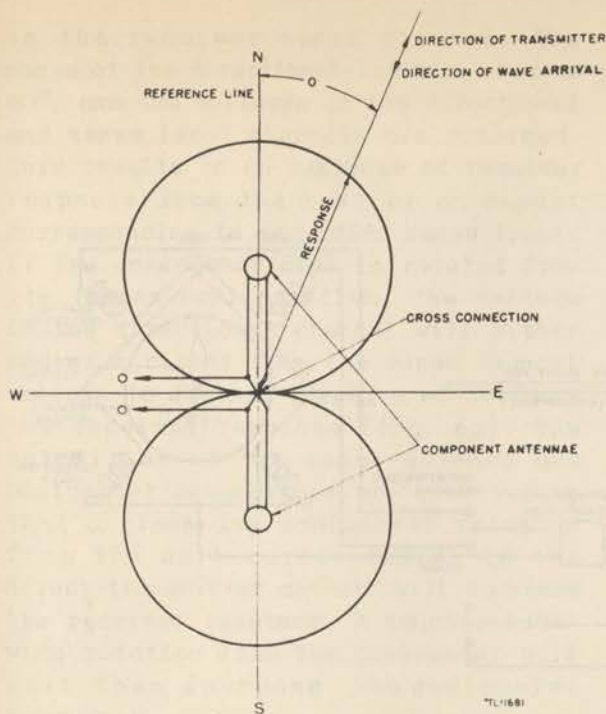
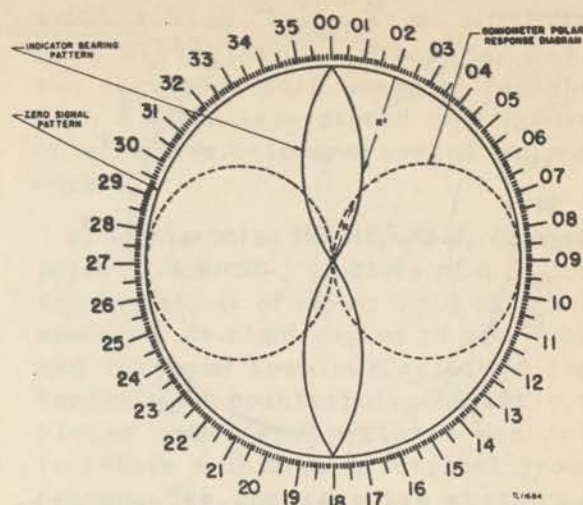
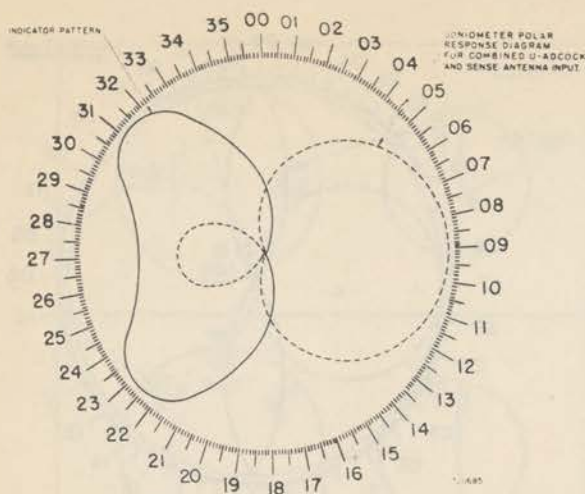
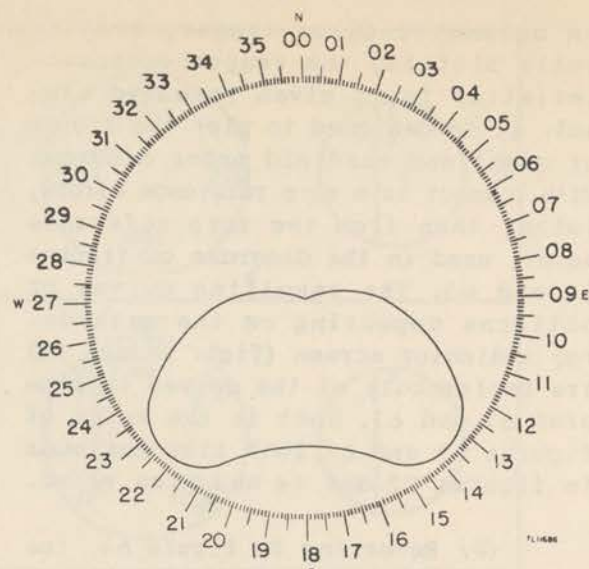

Figure 62. U-Adcock antenna polar response diagram.
Figure 72. Indicator azimuth pattern corresponding to the figure eight crossed U-Adcock and goniometer response characteristics.
Figure 73. Indicator pattern corresponding to cardioid response diagram, as it would be traced by the bearing deflection coils.
Figure 74. Sense pattern (figure 73 rotated 90°) traced by sense deflection coils which are advanced 90° from the bearing deflection coils.
(3) A polar diagram of reception showing response plotted against the angle of arrival of waves for a U-Adcock antenna system is shown in figure 62. When the transmitter is in the N or S direction, in the system illustrated, the output at the antenna terminals is maximum. If the transmitter is moved to the E or W direction the output at the antenna terminals will be zero or null. At intermediate directions the voltage across the U-Adcock is proportional to the cosine of the angle (θ in fig. 62) between the plane of the U-Adcock antenna system and the direction of arrival of the radio wave. The phase of the output voltage from terminals O-O (fig. 62) for all transmitter locations north of the E-W line perpendicular to the array, is just the reverse of the phase of the output voltage corresponding to transmitter locations south of the E-W line. In other words, the output voltage changes phase by 180° as the angle of arrival of the wave passes through the angles of antenna zero or null response. This is because waves arriving from the north of the E-W, or null line, arrive at the north component antenna first, while those from the south of the null line arrive at the south antenna first.
(4) Since the response of the U-Adcock antenna depends upon the direction of arrival of the wave with respect to the plane of the array, the antenna may be used to determine the azimuth of a transmitter, from a given point of observation, by rotating it to a null or zero response position. A pointer set perpendicular to the array and located at its center will point along the line of arrival of the radio waves. Observe, however, that for a U-Adcock antenna there are two null positions 180° apart. Either null gives the line of arrival of the wave but
an automatic curve tracer, continually plotting the response characteristics for a given received signal. It is designed to plot the figure of eight and cardioid polar diagrams with respect to a zero reference circle, rather than from the zero reference point, used in the diagrams of figures 62 and 63. The resulting curves or patterns appearing on the cathode-ray indicator screen (figs. 72 and 74) are reciprocals of the curves in figures 62 and 63. That is the nulls of figures 62 and 63 look like maximums in figures 72 and 74 and vice versa.
(b) Referring to figure 64, the goniometer output is amplified by an r-f amplifier in the directional channel of the receiver, shifted in phase 90° , and applied to the mixer amplifier. The sense antenna output is amplified in the receiver sense channel and combined with the amplified goniometer response in the mixer amplifier, when required for sense. The output of the mixer amplifier is rectified and applied to the grid of a d-c amplifier. The plate current from the d-c amplifier flows through a pair of deflection coils which are mounted so the resulting magnetic field is always perpendicular to the axis of the cathode-ray tube. The magnitude of the d-c amplifier plate current through the deflection coils is adjusted, by proper bias at zero signal, so that the resulting magnetic field through the cathode-ray tube deflects the spot to the edge of the screen. As the deflection coils are rotated about the axis of the tube the spot follows around the edge of the screen to form the zero signal or circular trace (fig. 72).
(a) The azimuth pattern is obtained by setting the SEARCH-INSTANT. BEARING-SENSE switch to INSTANT. BEARING. This connects the bearing deflection coils to the d-c amplifier output and disconnects the sense channel output from the mixer amplifier. The goniometer response, and hence the deflecting field of the deflection coils, varies with rotation as shown by the dotted figure of eight curve in figure 72. At the goniometer nulls, 0° and 180° in this figure, the receiver output is zero and the cathode-ray tube spot is at the edge of the screen. As the goniometer rotor and the deflection coils are turned from the nulls, the receiver output and bias on the d-c amplifier increases. This reduces the deflecting field and causes the cathode-ray tube spot to move toward the center of the screen as it rotates. For example in figure 72, at 20° of
(a) The sense pattern is obtained by combining the sense and directional channel outputs in the mixer amplifier (fig. 64). The receiver response then varies as shown by the dotted curve in figure 73. The solid curve is the corresponding indicator pattern which would be traced if the d-c amplifier were still connected to the bearing deflection coils. However, this orientation of the pattern is not practical for sense determination. Figure 74 shows the actual sense pattern which is obtained by rotating the pattern of figure 73 by 90° . This is done automatically when switching to SENSE by switching the d-c amplifier output to the sense deflection coils, which are advanced 90° from the bearing deflection coils (fig. 64).
(b) Observe that the sense pattern (fig. 74) is off center on the screen but is symmetrical with respect to the axis of the azimuth pattern of figure 72. All connections are phased so that the sense pattern lies opposite the end of the azimuth pattern which corresponds to the direct transmitter azimuth. This relationship between the azimuth and sense patterns is easy to remember because it is similar to the corresponding relationship between the head and tail of an arrow. That is, the head of the arrow points to the direct transmitter azimuth and the tail to the reciprocal azimuth, or the azimuth of the receiving station with respect to the transmitter.
Figure 75. Composite view of the azimuth and sense patterns of figures 72 and 74 show their arrow-head and tail relationship gives the direct transmitter bearing.